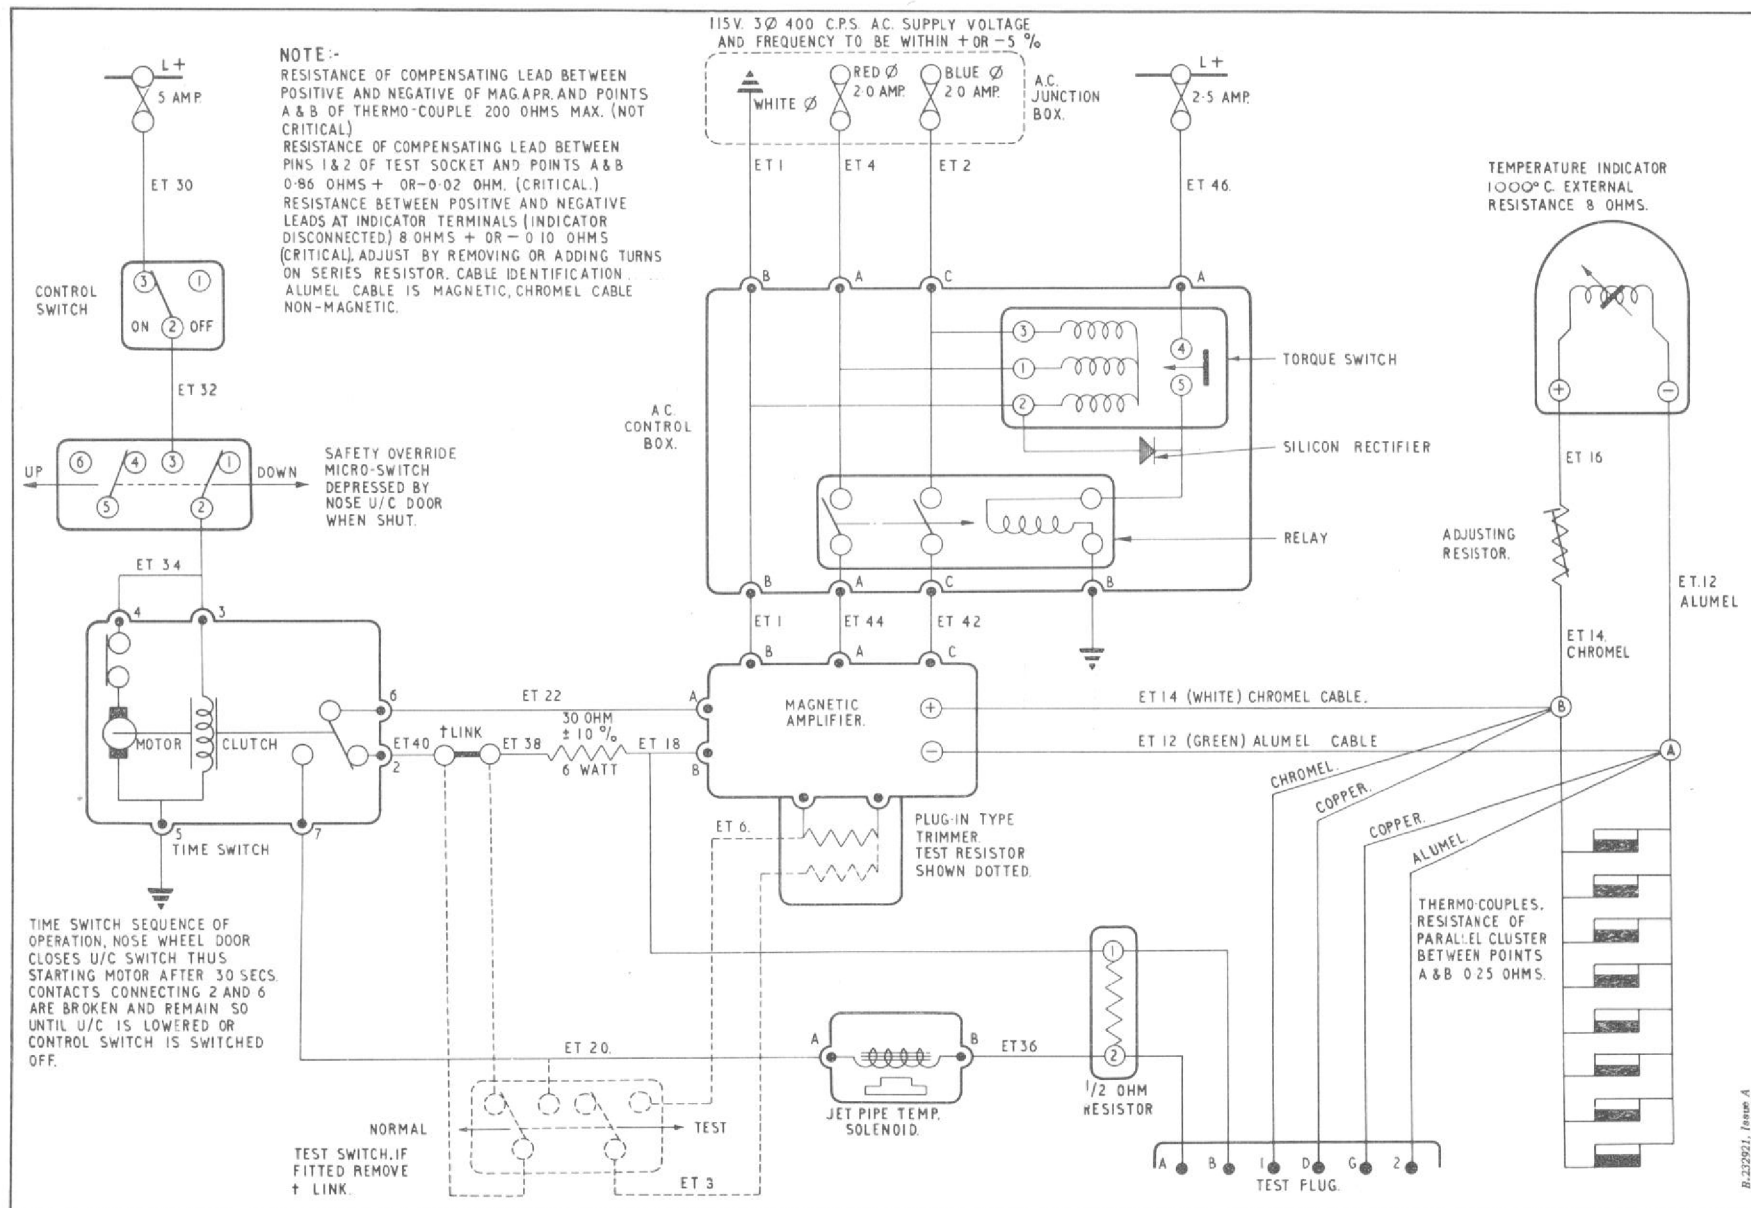

Fig.1 Exhaust gas thermometer and top temperature control (theoretical)
17. Check that the resistance of the compensating lead between positive and negative of magnetic amplifier and points B and A respectively (fig.1) does not exceed 20 ohms. Check that the resistance of compensating lead between pins 1 and 2 of test socket and points B and A respectively is 0.86 ± 0.02 ohms. Disconnect the positive and negative terminals on the exhaust gas indicator and check the resistance of the external circuit (extension leads and thermocouples) which should be $8 \text{ ohms} \pm 0.10 \text{ ohms}$; if necessary adjust the series ballast resistor, connected into the positive (chromel) wire, by removing or adding turns of wire to the resistor spool. The resistance of the thermocouple cluster as measured between points A and B is 0.25 ohms.